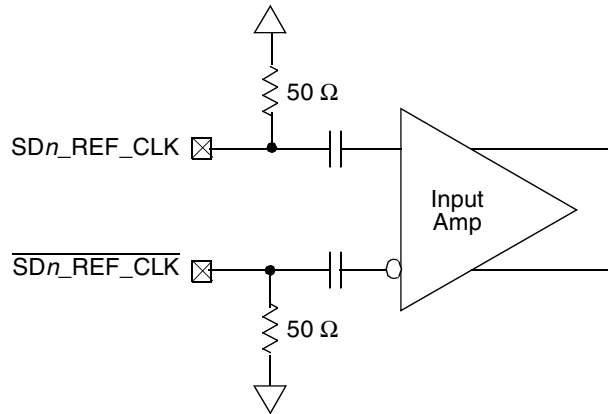

Figure 30. Receiver of SerDes Reference Clocks
Figure 30 shows a receiver reference diagram of the SerDes reference clocks.
- The SDn_REF_CLK and $\overline{SDn_REF_CLK}$ are internally AC-coupled differential inputs as shown in Figure 30. Each differential clock input (SDn_REF_CLK or $\overline{SDn_REF_CLK}$) has a 50- Ω termination to SGND followed by on-chip AC-coupling.